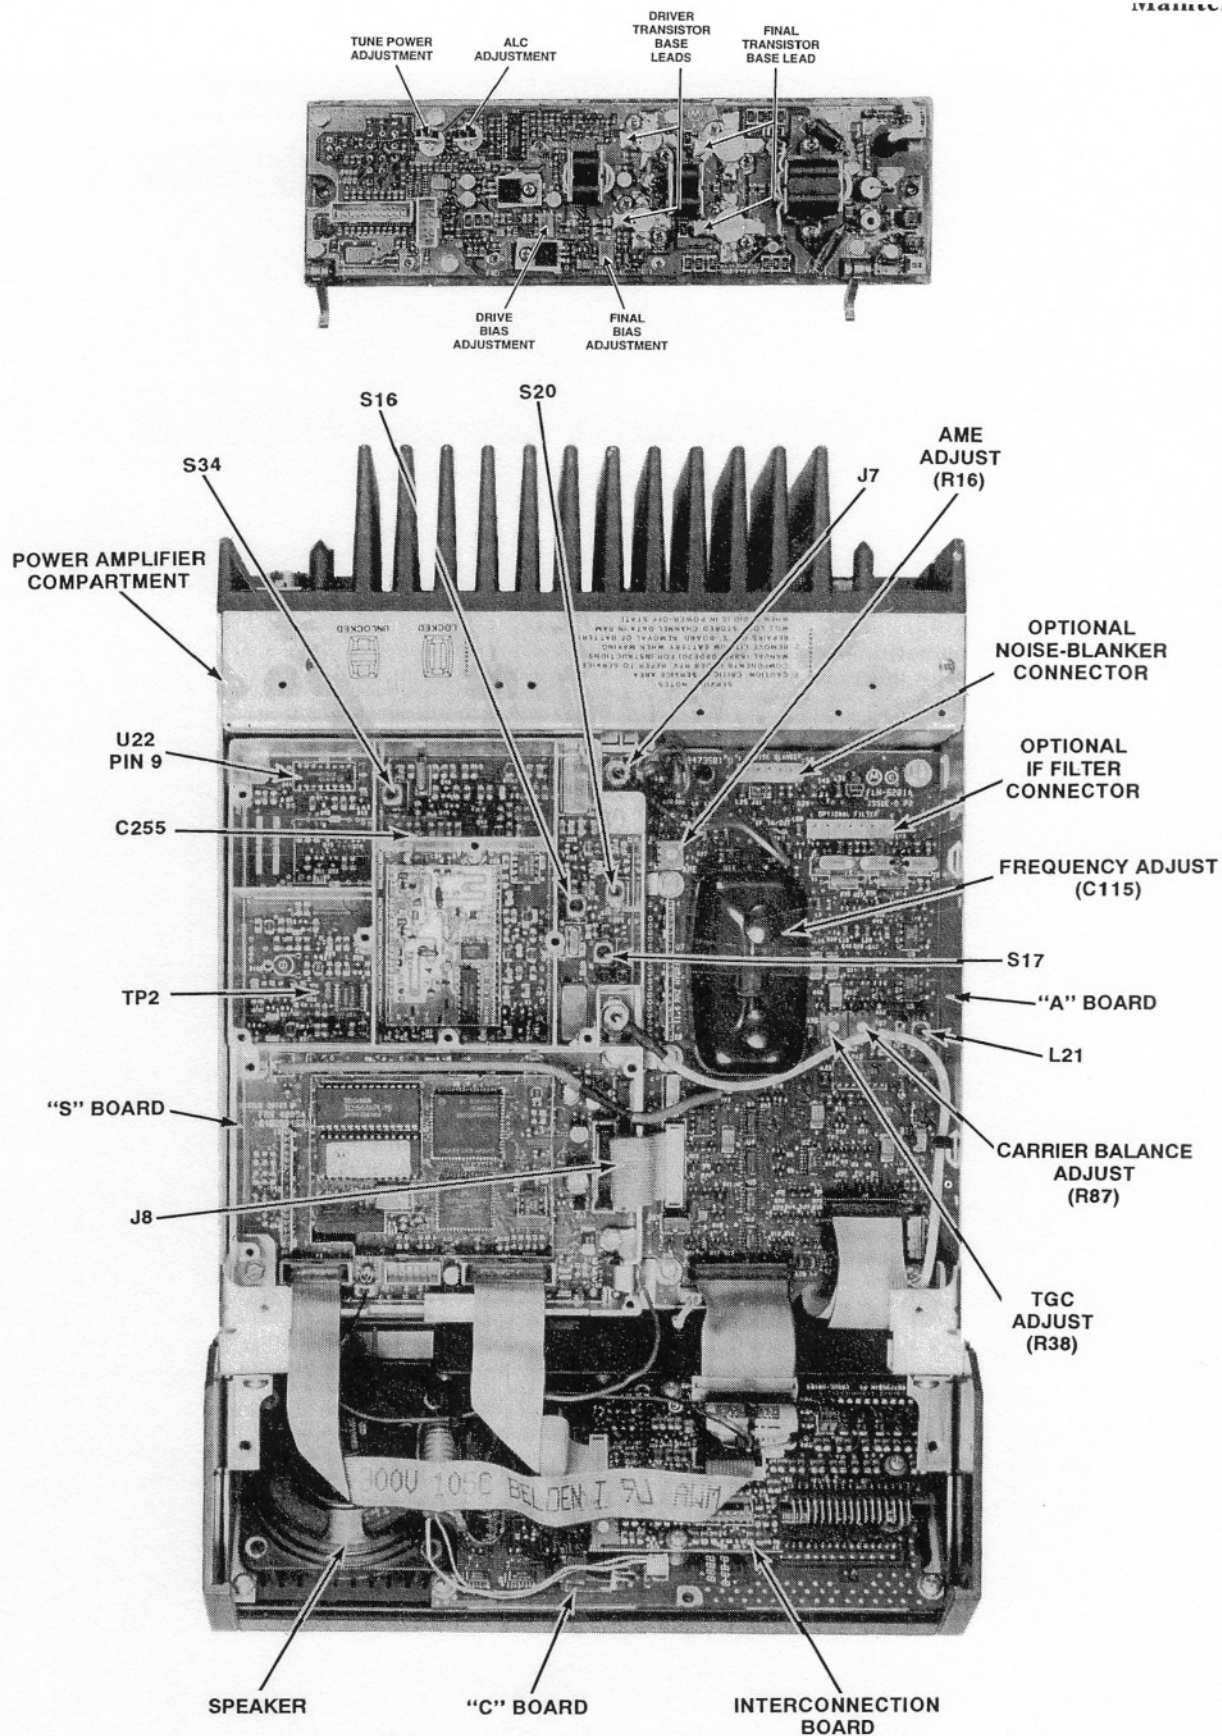

Figure 3. Location of Measurement and Adjustment Points
(See Figure 3)
Step 2. Remove the plastic cap covering the tuning hole in the oven insulating cover and adjust the piston trimmer capacitor C115 (see Figure 3) to obtain a reading of 9.105 MHz $\pm$ 2 Hz on the frequency counter.
Step 3. Remove the plastic cap covering the tuning hole in the oven insulating cover and adjust the piston trimmer capacitor C115 (see Figure 3) to obtain a reading of 1000Hz $\pm$ 1 Hz on the frequency counter.
Step 2. Without any change in the radio's mode of operation, adjust coil S34 (see Figure 3) to obtain 4 $\pm$ 0.1 V on the positive pole of C255.
Step 3. Tune coils S16-S17 (see Figure 3) to maximum output at J8. Then, vary the RF signal generator $\pm$ 10 kHz around the center frequency and return slightly S16-S17 to obtain maximum ripple of 1.5 dB within the $\pm$ 10 kHz range. The output level in the center should be -18 to +3 dBm.
Step 4. Adjust the TGC potentiometer, R38 on the A board (see Figure 3) for output power of 145 W.
Step 4. Adjust the 11.4 MHz IF amplifier coil L21 on the A board, and the 75 MHz receive path coil S20 on the S board for maximum recovered audio at the speaker (see Figure 3).